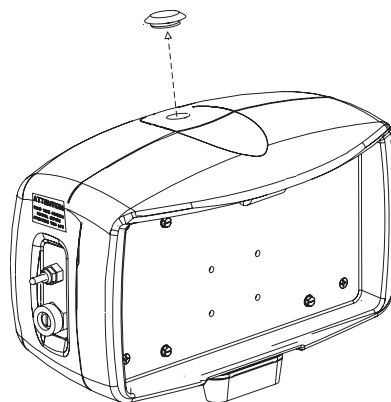

Figure 7-3
2. Using a coin or key, remove the cap on the top of the motor cover. **See Figure 7-3.**